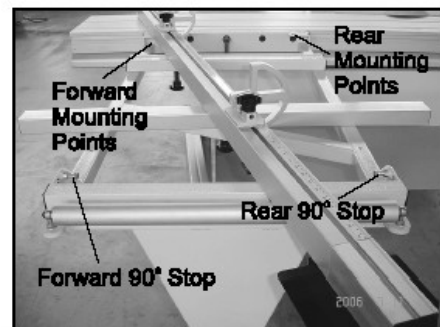

Fig. 57
1. Install the crosscut fence in the forward mounting points (Fig. 57) and lock it in place.]